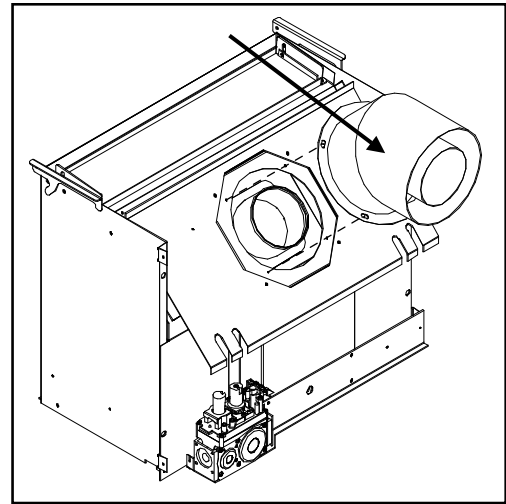

Figure 41: Step 4 of Converting Top Vented into Rear Vented.
4. Turn the elbow to the rear vent position and re-fasten with the screws removed in step 2 (see Figure 41).